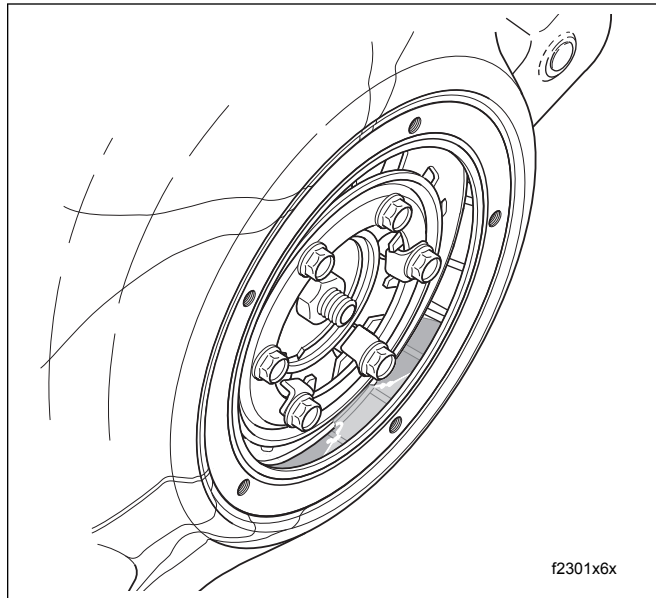

Figure 1-7. Add Primary Chaincase Lubricant
6. Pour 32 ounces (946 ml) of Harley-Davidson FORMULA+ TRANSMISSION AND PRIMARY CHAINCASE LUBRICANT through the clutch inspection cover opening, Part No. 99851-05 (quart). See Figure 1-7.